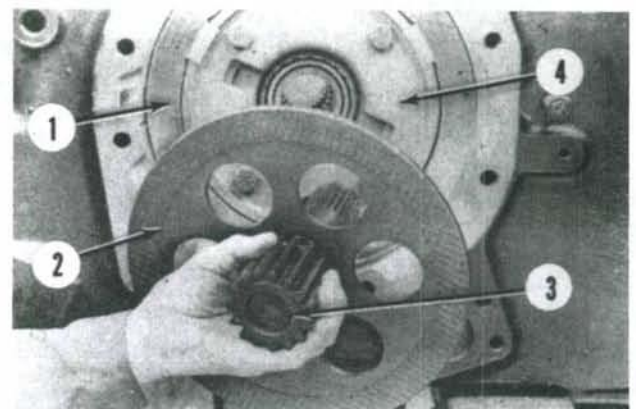
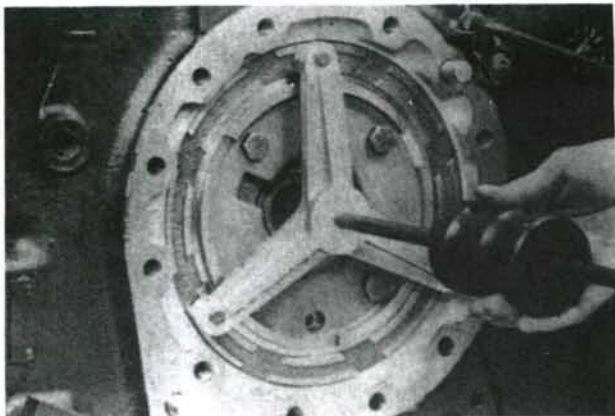

Fig. 143—Planetary drive shaft and brake disc being removed from differential housing.
Fig. 144—Use special tool IH7847A and slide hammer to remove brake piston.
123. **R&R AND OVERHAUL.** Removal of either brake is accomplished by removing final drive as outlined in paragraph 118. Refer to Fig. 143 and remove planetary drive shaft (3), brake disc (2) and inner brake ring (1). Use special tool IH 7847A and a slide hammer to remove brake piston as shown in Fig. 144. Remove "O" ring from brake piston. Unbolt and remove differential bearing housing (4—Fig. 143), being careful not to lose shims. Apply petroleum jelly to grooves in bearing housing, then install new "O" rings. Reinstall brake housing and shims and using Loctite 241 on cap screw threads, tighten cap screws